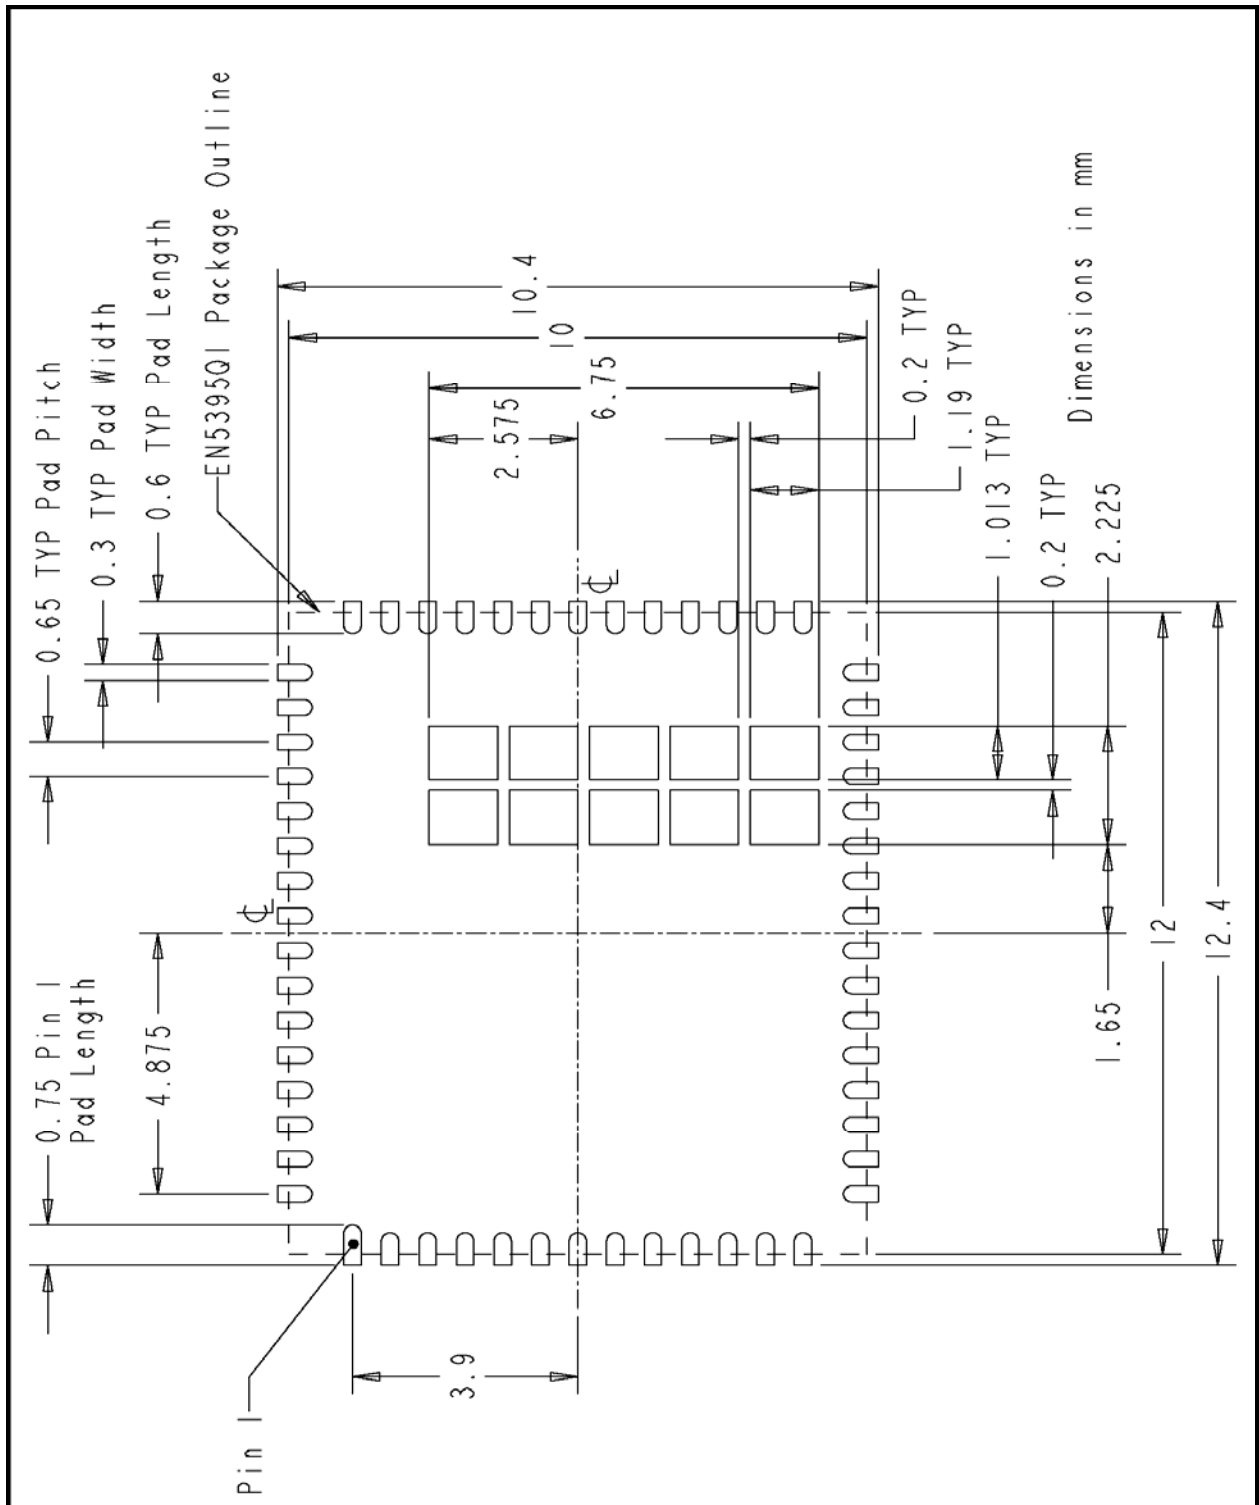

Figure 5 Solder stencil aperture layout for the EN5395QI QFN package
Figure 5 shows the solder stencil aperture layout for the EN5395QI QFN package.
- If open through-hole plated vias are used in the PCB GND pad then the stencil aperture opening should have a size ratio of 0.95:1. Note: the quantity and diameter of the vias will determine the amount of solder that will flow into the vias during reflow reducing the solder volume between the EN5395QI GND pad and the PCB GND pad. The solder stencil aperture layout should use one large aperture opening for the GND pad with dimensions as shown in Figure 5.
- If plugged and capped through-hole vias are used in the PCB GND pad then the stencil aperture opening should have a size ratio near 0.50:1. Note: less solder paste will be required since the vias will not fill with solder during reflow. The solder stencil aperture layout should use ten small aperture openings (known as a window pane solder stencil aperture) for the GND pad with dimensions as shown in Figure 5.